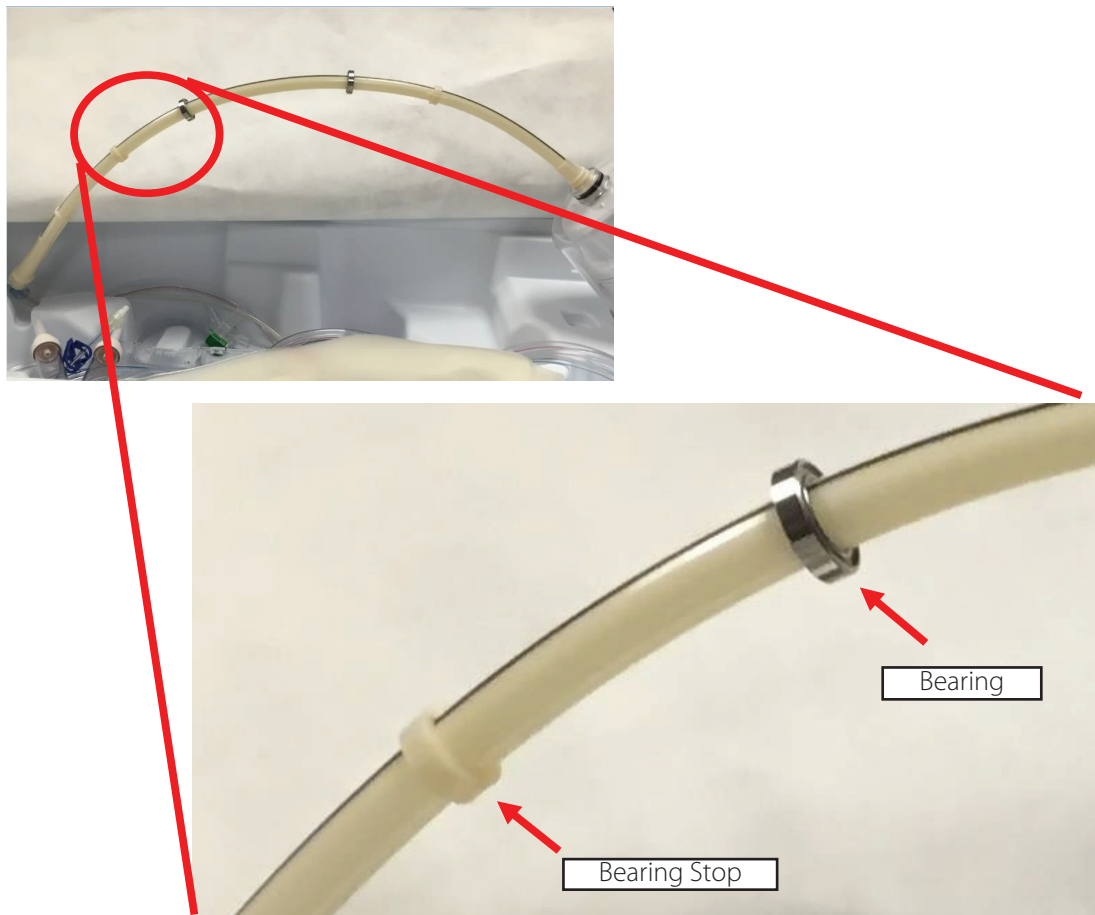

Figure 4-9a: Bearing not fully against Stop
1. Please follow the steps below to successfully load a procedural kit with a bearing that is loose or not flush against the bearing stop. (See *Figure 4-9a*).